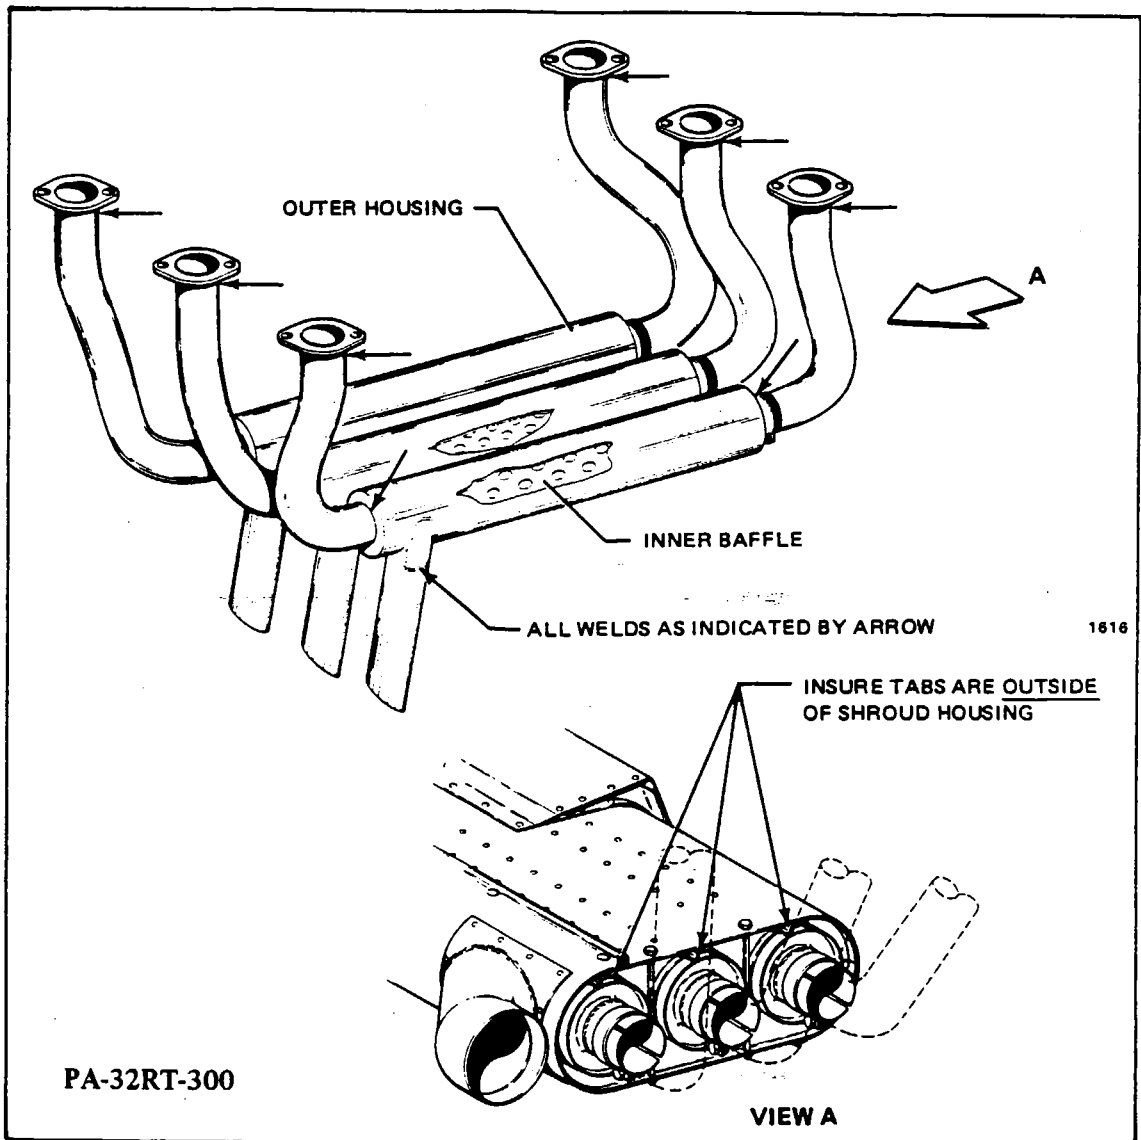

Figure 3-1. Exhaust System Inspection Points
3-9. **INSPECTION OF EXHAUST SYSTEM.** (Refer to Figure 3-1 for PA-32RT-300 installations.) A very thorough inspection of the entire exhaust system, including heat exchange shroud, (muffler and muffler baffles on PA-32RT-300 or complete tailpipe assembly on PA-32RT-300T), stacks and all exhaust connections must be accomplished at each 100-hour inspection. The possibility of exhaust system failure increases with use. It is recommended that the system be checked even more carefully as the number of hours increase; for example an inspection at the 700-hour period would be more critical than one in the 100-hour period. The system should also be checked carefully before winter operation when the cabin heat will be in use.
1. Check the left end of muffler and shroud assembly to determine if the shroud retaining tabs are totally visible on the outside of the shroud (Refer to Figure 3-1.)